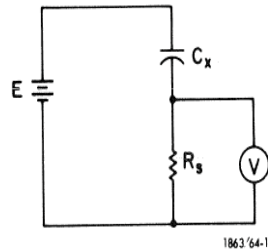

Figure 4.2 Basic megohmmeter circuit
Measuring insulation resistance of large capacitors that have very low leakage is difficult by any method. Considering the basic circuit of Figure 4.2, if R_s is high, the $R_s C_x$ time constant can become very long on the high resistance ranges if C_x is large. If R_s is low, the voltmeter must be very sensitive for a given leakage resistance range and, therefore, the supply voltage (E) must be extremely stable to avoid large meter fluctuations. The design of the 1864 is a compromise between these factors. Measurements become difficult when the $R_s C_x$ product is 10^6 , even under ideal conditions. This can be calculated as (C_x in μF) \times (R_s in $M\Omega$) or (C_x in F) \times (R_s in Ω). Table 4.1 contains values for R_s .